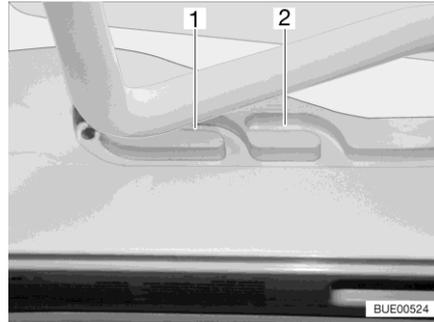

Fig. 30 Guide (ventilation position)
The hinged skylight can be put in two ventilation positions: Bad weather position (Fig. 30,1) and central position (Fig. 30,2).
- Push the bar slightly upwards and into the selected guide (Fig. 30,1 or 2).